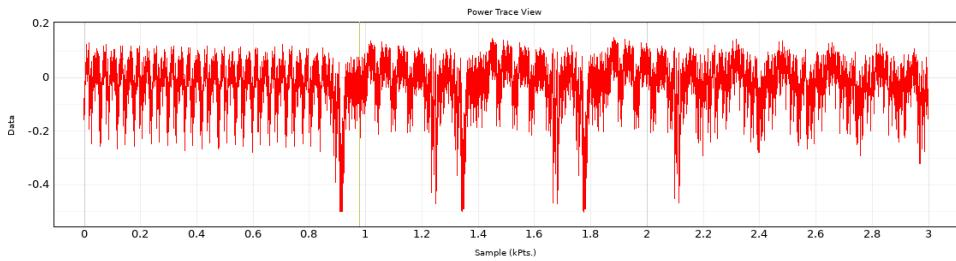

Figure 15.1: Example Power Trace of an AES128 encryption - can you tell why it is AES128?
- If we don't know it already, use Simple Power Analysis to identify key lengths - see fig 15.1